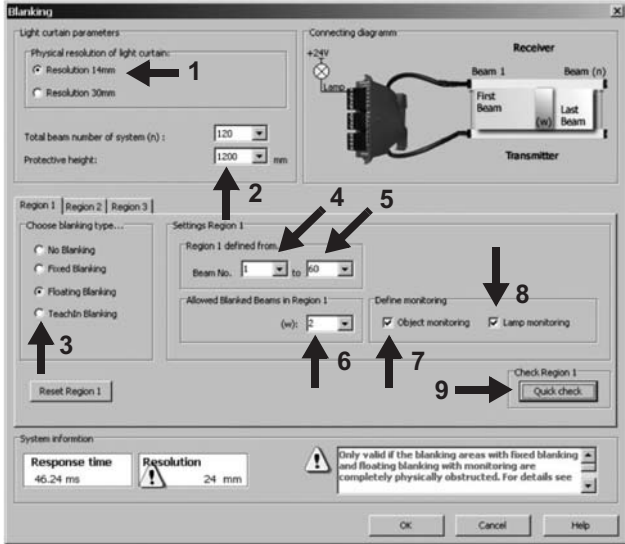

Figure 75: Floating Blanking window
In the case of "Floating Blanking" (3 – Figure 75), the area in which the object is allowed to move must first be defined (4 and 5). Subsequently the number of interrupted beams for "Floating Blanking" can then be defined (6). Finally, the user must specify whether this application operates with object monitoring or without object monitoring (7). Finish the blanking configuration for this region by clicking on the Quick check button. Additional information on floating blanking can be found in chapter 5.7.3.